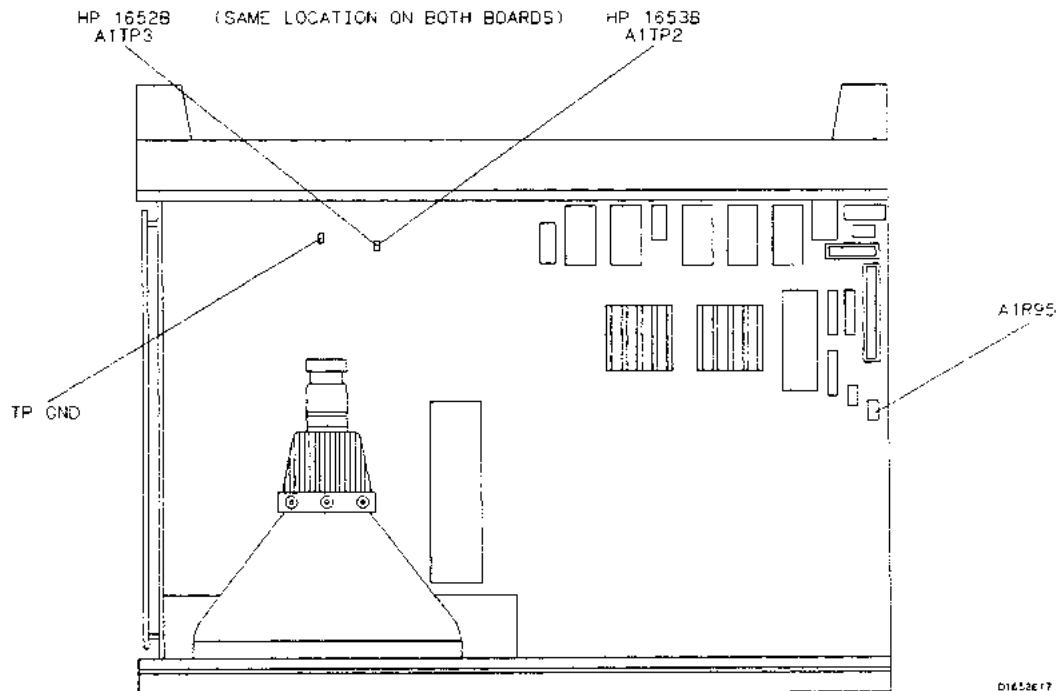

Figure 4-3. System Board Testpoints and Adjustments
2. Connect the negative (-) lead of the voltmeter to TP GND. Refer to figure 4-3 for testpoint and adjustment locations.
- m. With the digital voltmeter connected, adjust A1R95 for reading of $-.9900\text{ V} \pm 0.0005\text{ V}$. Refer to figure 4-3 for adjustment locations.